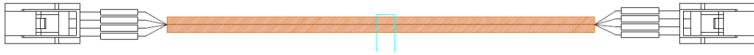

Figure 6-5 Battery module communication cable diagram (picture is for reference only)
1) Take out the matching battery module communication line as shown in Figure 6-5 and separate the communication line according to the battery module communication line label.